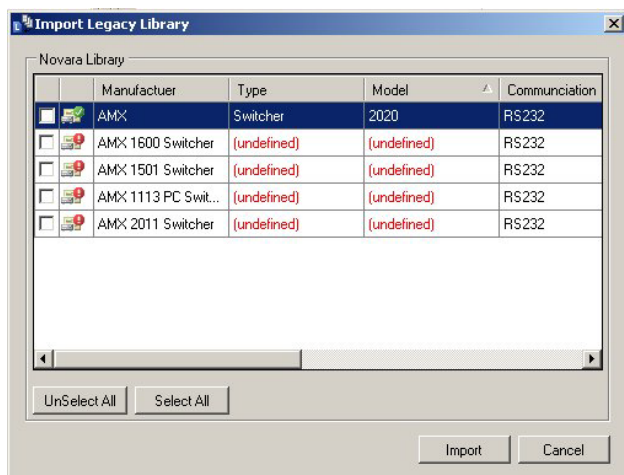

FIG. 78 Import Legacy Library dialog
3. Navigate to a directory containing Novara device libraries (\*.xml, \*.plr, \*.pr, \*.txt) and select a library file. The Import Legacy Library dialog opens (FIG. 78).